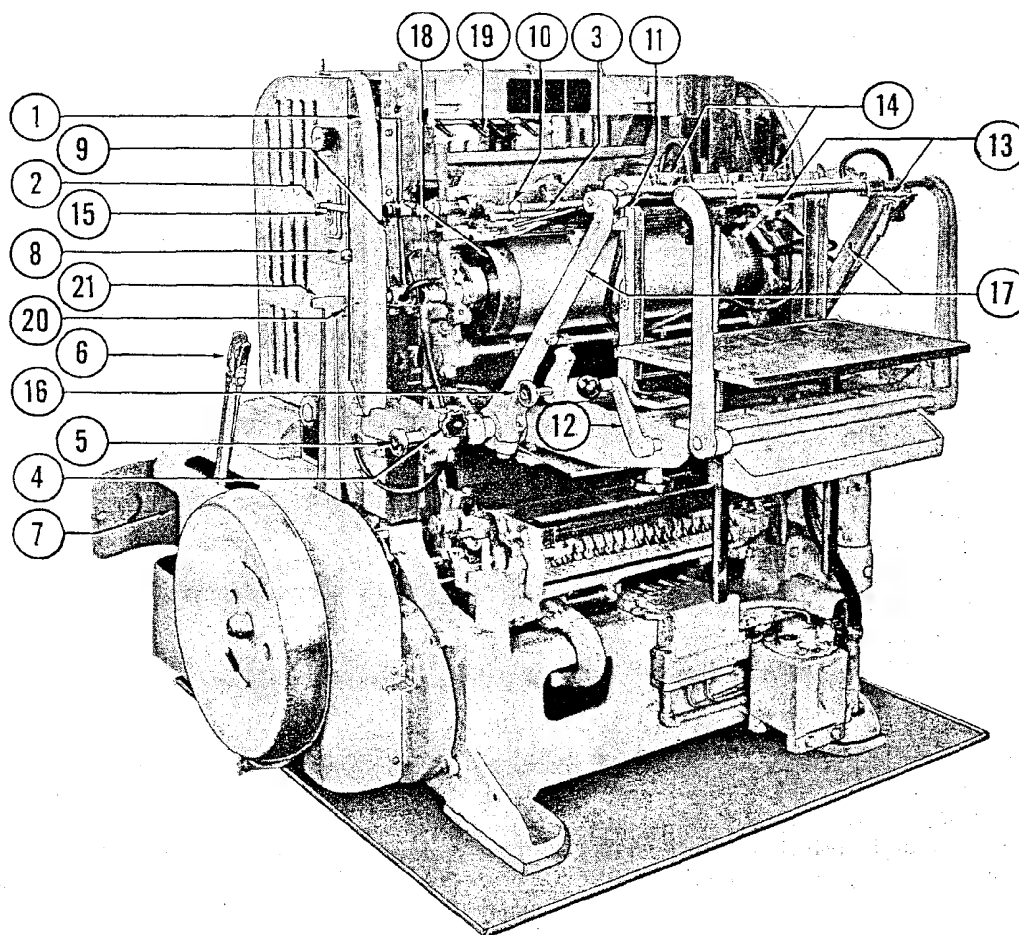

Figure 11—Starting Press
a. **PROCEDURE FOR STARTING PRESS.** (See figure 11:) Before starting press, turn flywheel manually one complete cycle to be sure that there is clearance for all moving parts.
(1) Make certain power is off by opening left end cylinder guard (1), thereby tripping the "STOP" (red) motor control push-button (2).
(2) Attach transfer table (3). (Refer to paragraph 1, page 14).
(3) Lock feeder (4) in operating position (refer to paragraph 7, page 14) and then pull feeder control air valve handle (5) to its out position.
(4) Release belt-tightener lever (6) (extreme left position).
(5) Install 3,000 I.P.H. (smallest) change pulley (7). (Refer to paragraph g, page 21).
(6) Turn automatic stop control knob (8) so that red button is in its down position.
(7) Close the left end cylinder guard (1).
(8) Check that side-guide shifting cam (9) is positioned for left side register and then set left side guide (10) at $9\frac{1}{2}$. (Refer to paragraph 2, page 14).
(9) Set left side front pile guide (11) so that "0" alignment marking is at $9\frac{1}{2}$. (Refer to paragraph 1, page 12). Position opposite pile guide to suit size of sheet to be used for check-run (11" x 17" medium weight stock is recommended).
(10) Lower feeder pile table by turning crank (12) and then place a few sheets of stock on table.